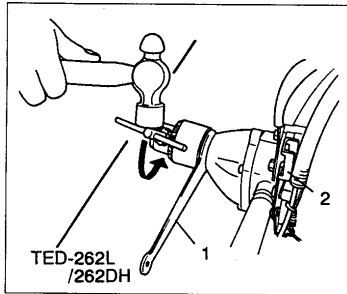

Fig. 2-6
- **To tighten the chuck more securely**, set a 19mm spanner (1) between gear case and drill chuck to lock drive shaft. Turn on lock lever (2) first, then hit the mounted chuck handle with a hammer to screw in (clockwise) the chuck. (TED-262L~262DH) (Fig. 2-6)